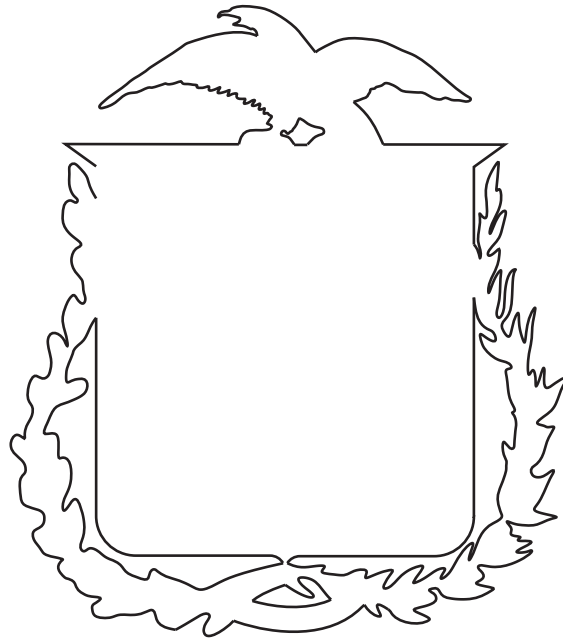

Fig. 19-14
3. The drawing shown in Fig. 19-14 was used with a computer-driven, high-pressure water cutter to cut a shield out of a piece of  $\frac{1}{4}$ " brass. Use the **SKETCH** command with **SKPOLY** set to **1** to draw a similar shield. Experiment with the **PEDIT** command to make the sketched drawing as smooth as possible.